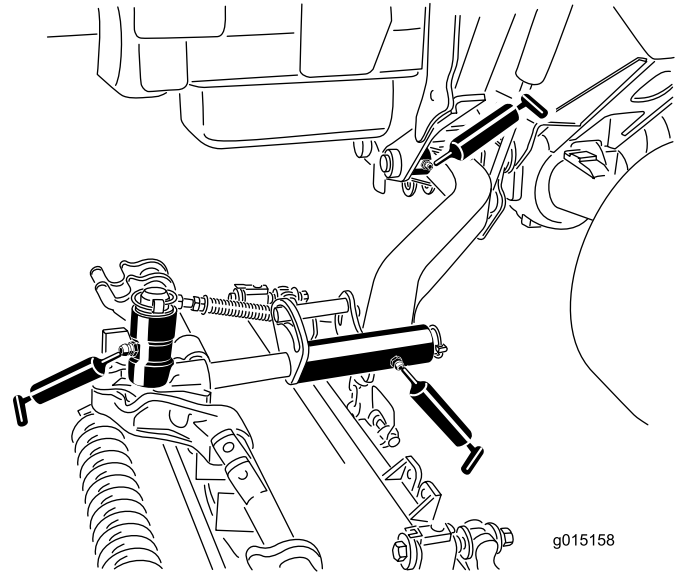

Figure 51
- Cutting unit carrier frame (2 per cutting unit) (Figure 51)
- Cutting unit lift arm pivot (1 per cutting unit) (Figure 51)
- Lift arm pivot bushings (1 per cutting unit) (Figure 51)